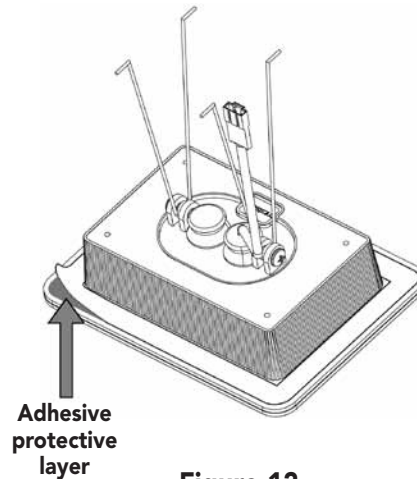

Figure 12
3. Peel off and discard the protective layer from the fixture's double-stick adhesive (**Figure 12**).